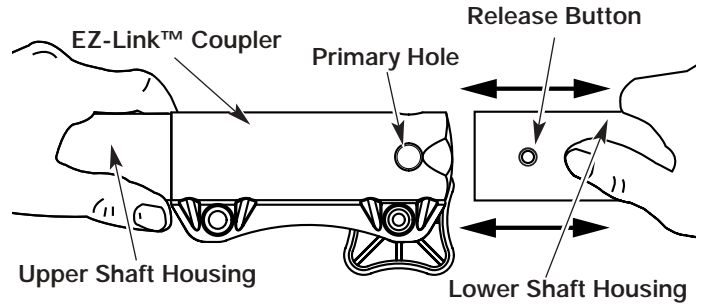

Figure 20
3. While firmly holding the upper shaft housing, pull the cutting attachment or add-on straight out of the EZ-Link™ coupler. See Figure 20.
2. While firmly holding the add-on, push it straight into the EZ-Link™ coupler. See Figure 20.